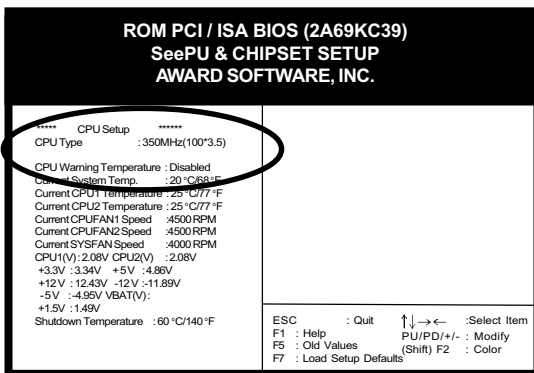

Figure 2-2
2. Move the cursor to SeePU & Chipset Setup menu and press Enter. Find the CPU Setup commands at the right hand part of the BIOS screen (Figure 2-2) Commands for operating the cursor in BIOS are found at the lower right of the BIOS screen